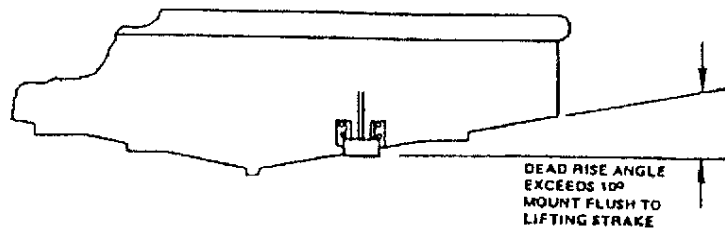

Figure 8. Transducer Mounting on Transom Parallel with Waterline
- b. If the transducer is to be mounted parallel with the waterline, locate the transducer as illustrated in Figure 8.